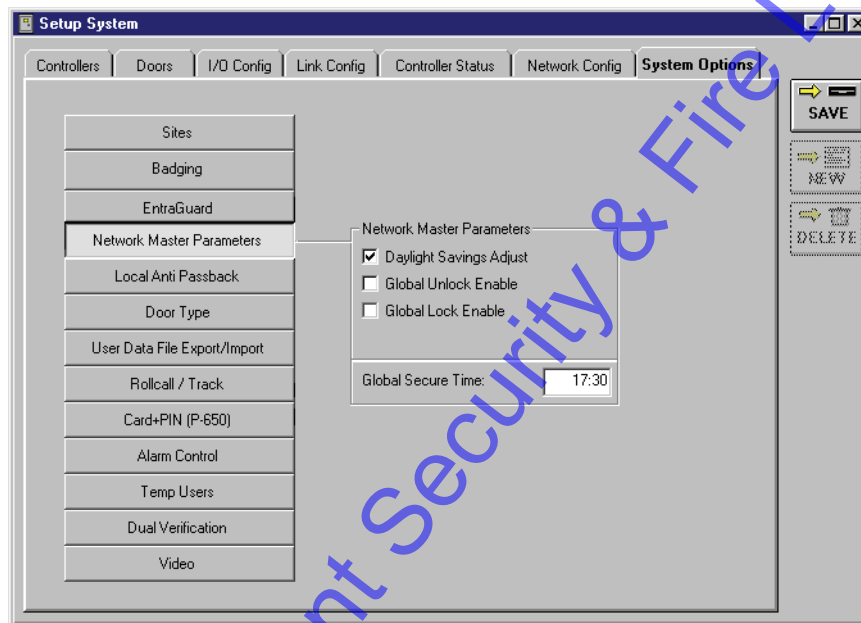

Figure 2-7: Network Master Parameters Field
1. From the System Options tab, click on the  button. The System Options window will reveal the Network Master Parameters field where the three parameters listed above may be set (see Figure 2-7).